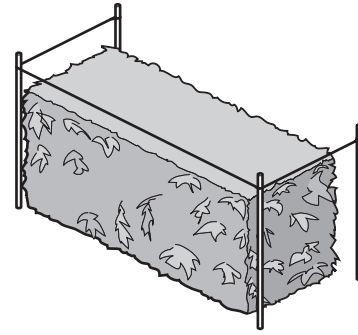

Fig. 12
- Use a string to obtain a level hedge. Stretch a string along the top of the hedge at the desired height and trim the hedge just above the level of the string (Fig. 12).